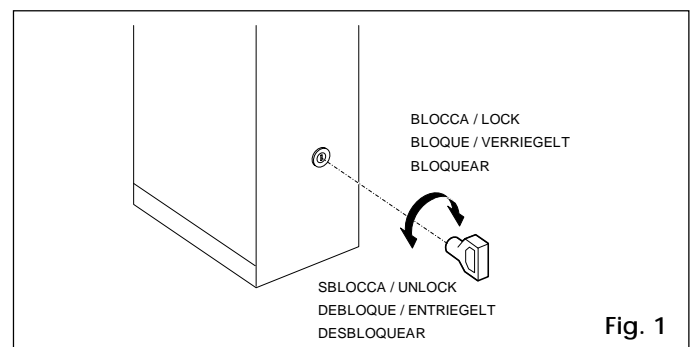
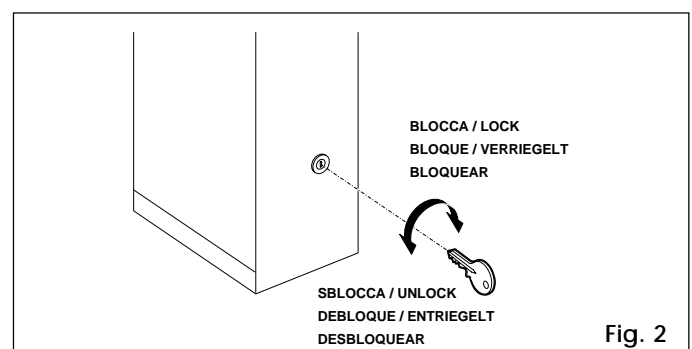

Fig. 1
Fig. 2
- while the beam is closing, slightly loosen the bleed screw on the piston without the balance spring, then retighten it (21, Fig. 1).
- Insert the standard key (fig. 1) or the customized key (fig. 2) in the lock and turn anticlockwise by one revolution.